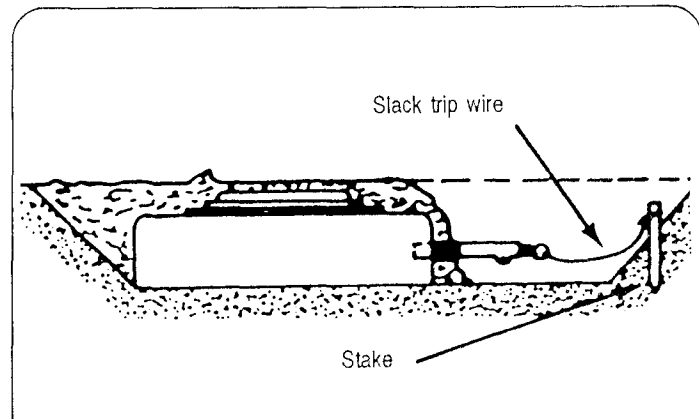

Figure A-47. M1 in the side fuze well
4. Install the M 1 pull FD assembly into the secondary fuze/activator well (Figure A-47).
- b. Attach the wire to the pull ring. Leave slack in the wire (Figure A-47).
7. Cover and camouflage the mine. Leave a hole (trench) at the side of the mine to remove the safety pins (Figure A-47).